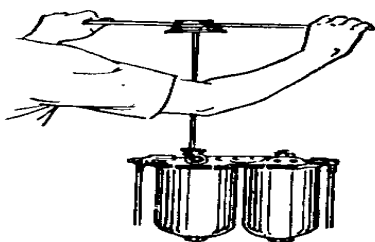

Figure 10
- h. Tighten the centre bolt to torque of 15 lbs.ft. (2 kgm). Do not overtighten. Figure 10.